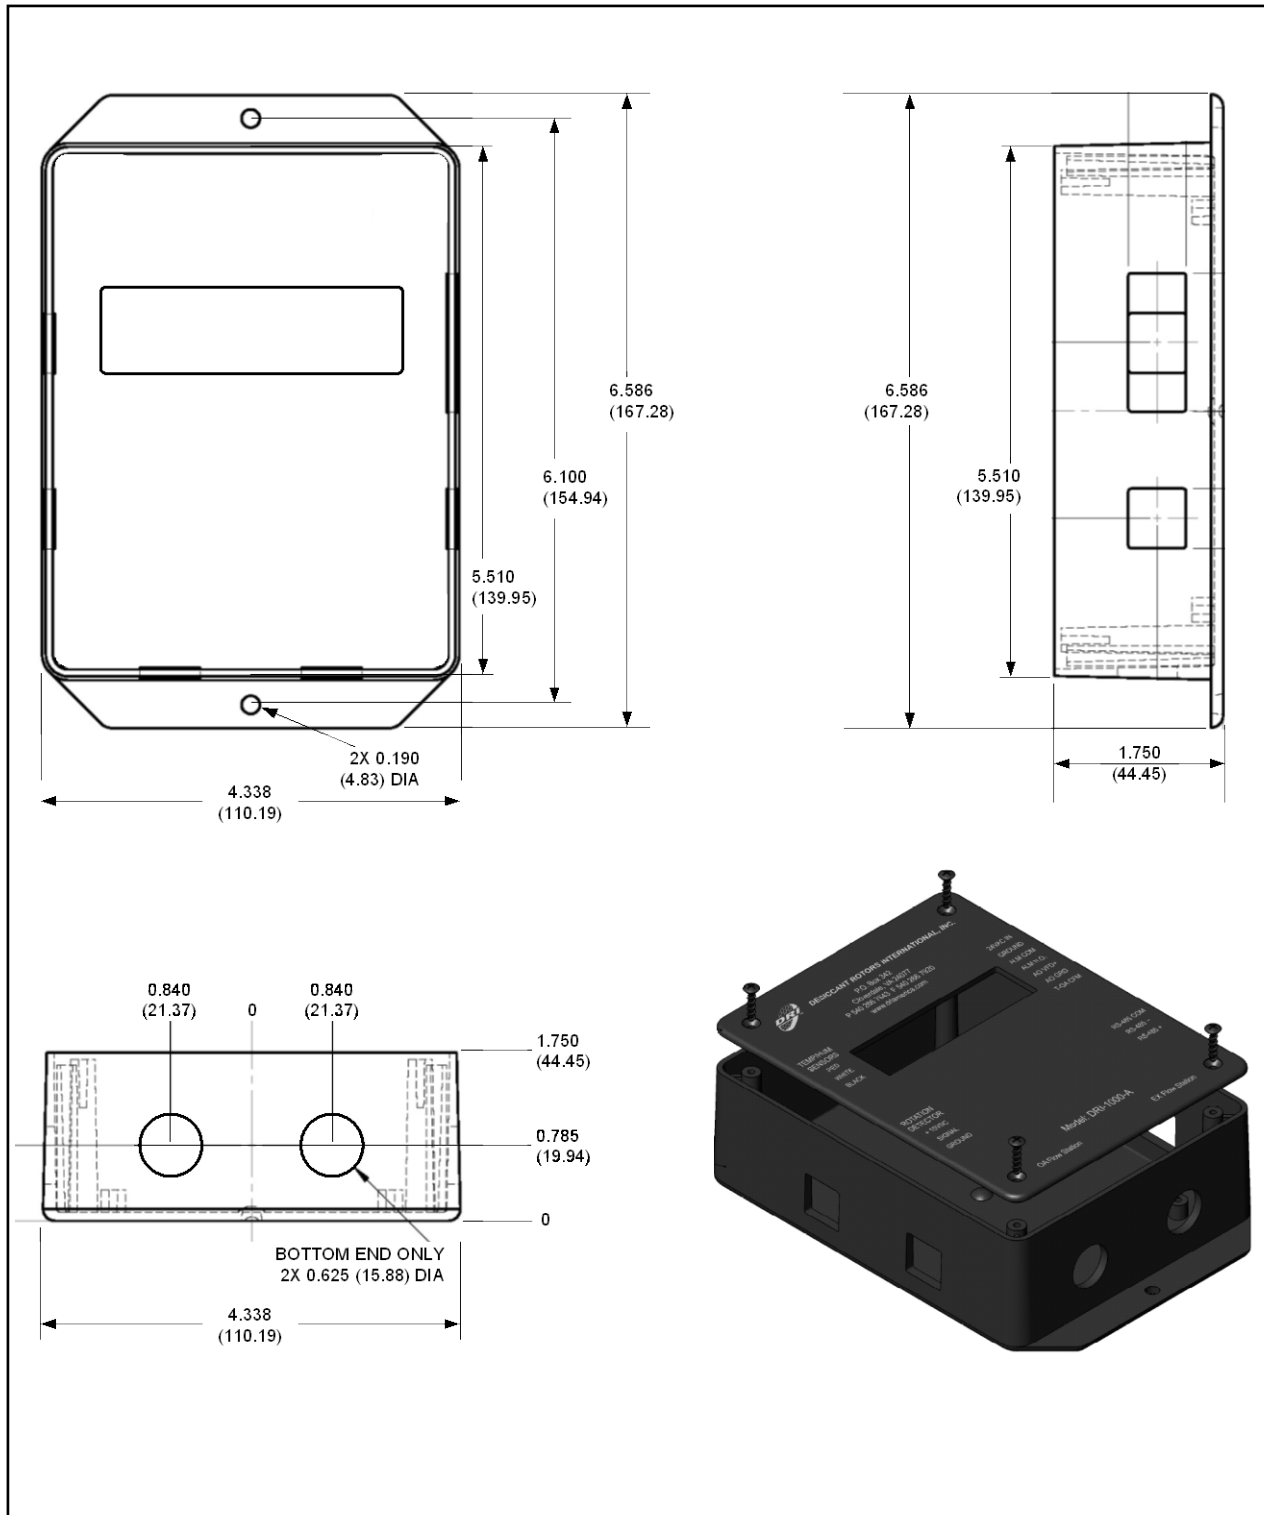
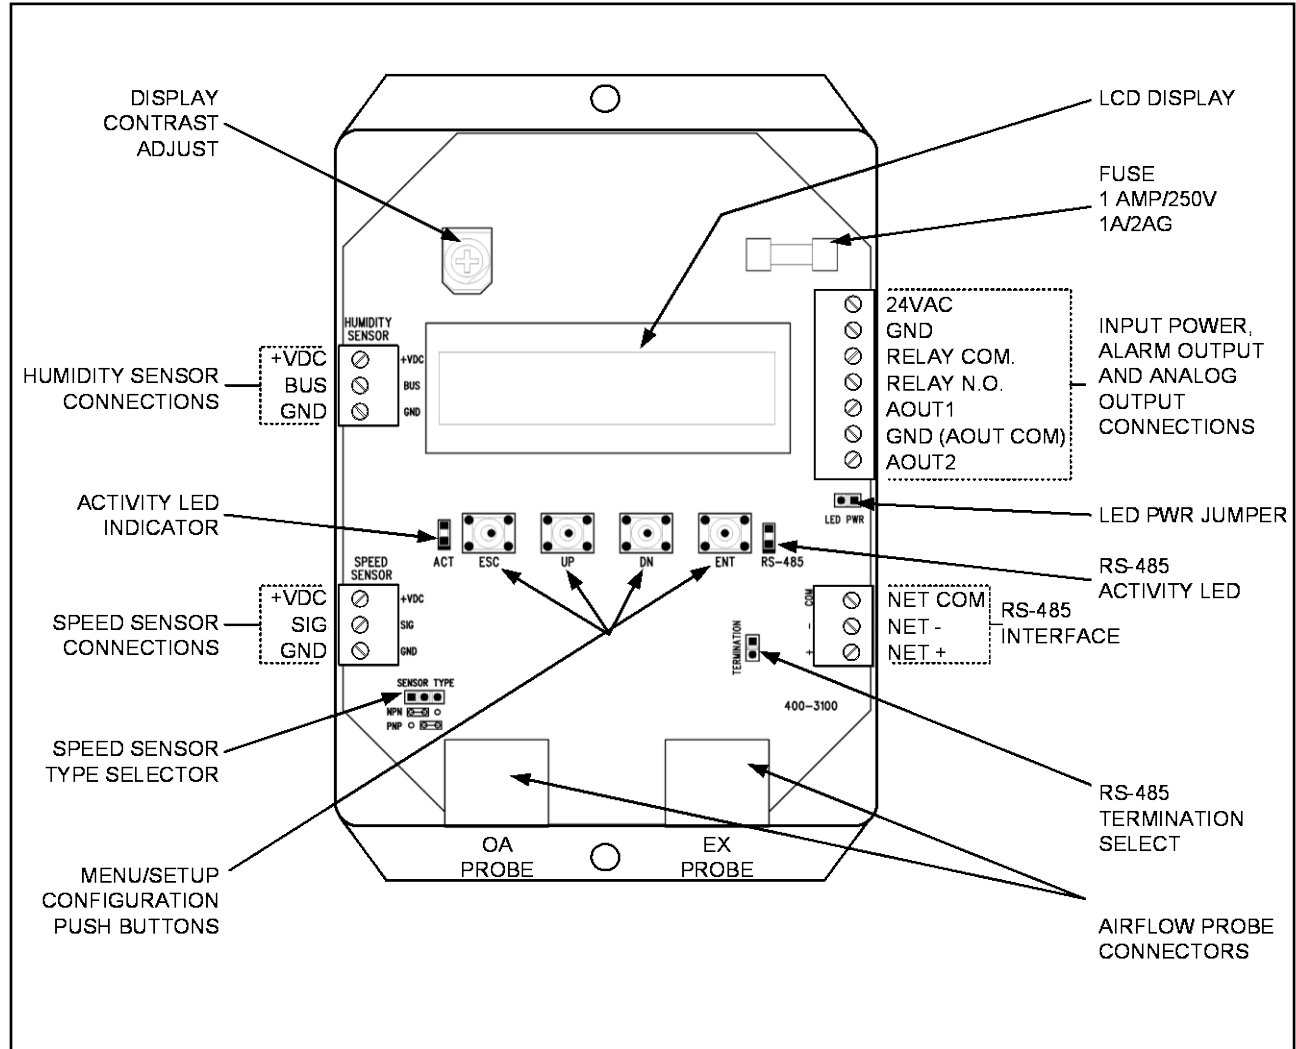

Figure 2. DRI-1000-A Controller/Display Unit Mechanical Detail
Figure 5. DRI-1000-A Controller/Display Unit Detail View
Figure 5 is a detail view of the Controller/Display unit showing the main circuit board and features. Refer also to Figure 2 for dimensional details.
Refer to the detail views and mechanical dimensions of the DRI-1000-A system components as shown in Figures 2 through 7.
1.  Refer to the manufacturer’s specifications to determine the sensor output (NPN or PNP type output), and set the SENSOR TYPE jumper to the matching position (see Figure 5).
The DRI-1000-A must be installed in a field accessible location with sufficient service clearance to permit cover removal. The enclosure accepts signal and power wiring at the side mounted terminal blocks, and optional airflow probes at the bottom of the enclosure as shown in Figure 5. Ensure that the planned instrument location will allow sensor, probe, power and network wiring to reach the associated connections on the Controller/Display unit.
3.  Refer to Figure 5 and mark the locations of the two mounting holes through the enclosure mounting flanges.
DRI-1000-A wiring consists of connecting all sensor cables, the 24VAC input power, the analog and RS-485 network outputs and the optional alarm outputs at the Controller/Display unit. Refer to Figure 5 for additional detail. Following installation, review and perform the initial start-up and set up procedures in the later paragraphs.
Wiring connections to the DRI-1000-A are accomplished at the screw-type terminal blocks of the instrument as shown in Figure 5. To prevent damage to the DRI-1000-A or other connected devices, the following precautions must be observed: